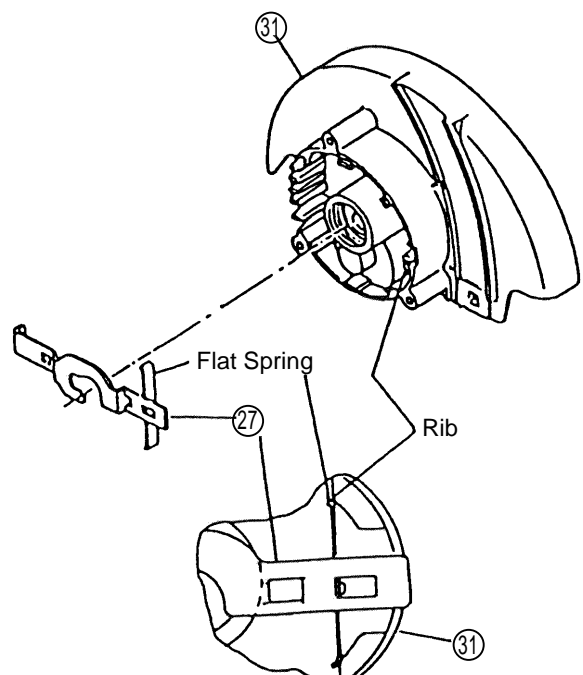

Fig. 2
- (3) Reassembly of the Lock Lever ②⑦: (See Fig. 2)
- Position the Lock Lever ②⑦ between the Fan and the 6201VVCMP2S Ball Bearing ②⑨, and carefully assemble it together with the Armature Ass'y ②⑥ into the Gear Cover ③①.
- Carefully ensure that both ends of the Flat Spring on the Lock Lever ②⑦ are properly supported inside the ribs of the Gear Cover ③①, as illustrated in Fig. 2.
- When assembly of the Lock Lever ②⑦ is completed (when the Gear Cover ③① has been assembled to the Housing Ass'y ①⑧ and fastened with the M5 x 45 Machine Screws (w/washers) ①⑦, push the Lock Lever ②⑦ by hand and ensure that it returns smoothly to its original position when released.